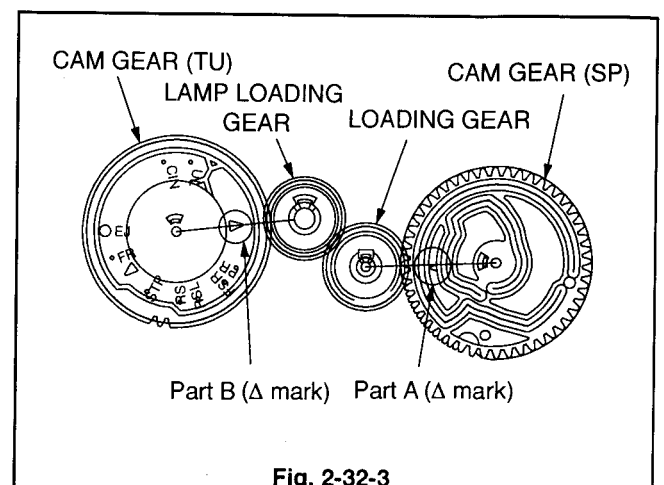

Fig. 2-32-3
- 2 Set the CAM GEAR (TU) shown in Fig. 2-32-3 so that the  $\Delta$  mark on the part B points to the centre of the LAMP LOADING GEAR.
- 3 Set the CAM GEAR (SP) shown in Fig. 2-32-3 so that the  $\Delta$  mark on the part A points to the centre of the boss into which the LOADING GEAR is to enter and install it.